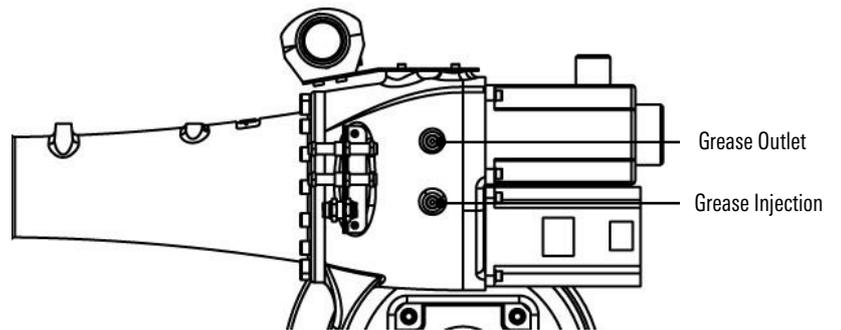

Figure 13-7 Replace the lubricating grease of elbow gear case
- Remove the grease outlet M10x1 plug, as shown in Figure 13-7.